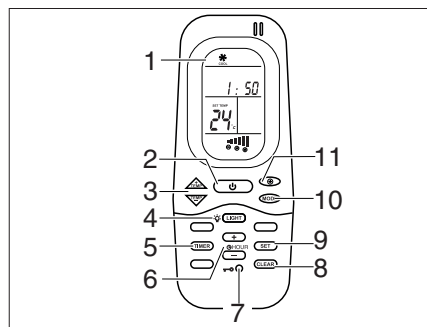
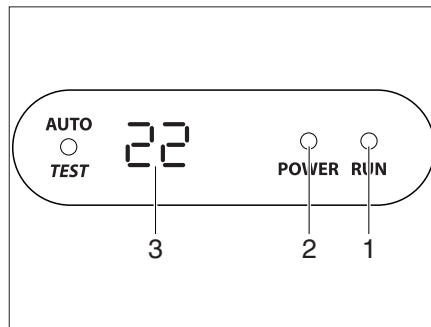

Fig. 305 Remote control
Fig. 306 Display on the diffuser
The air conditioning unit is located on the roof of the vehicle. The remote control (Fig. 305) for the air conditioning unit is located in the kitchen area.
- Connect the vehicle to the 230 V power supply. The air conditioning unit is ready to operate. The LED (Fig. 306,2) on the diffuser's display lights up red.
- To switch on, press the on/off switch (Fig. 305,2) on the remote control. The LED (Fig. 306,1) lights up green when the air conditioning unit is in cooling mode. The LED (Fig. 306,1) lights up red when the air conditioning unit is in heating mode.
- Set the desired operating mode using the MODE button (Fig. 305,10).
- If necessary, set the desired fan level by using the button (Fig. 305,11) and the room temperature by using the buttons (Fig. 305,3).
- To switch off, press the On/Off switch (Fig. 305,2) on the remote control again.
- To carry out programming, switch on the air conditioning unit with the On/off switch (Fig. 305,2) on the remote control.
- Press the TIMER button (Fig. 305,5). The ON indicator for the Start time is activated.
- Set the time with the TEMP (+/-) buttons (Fig. 305,3).
- Press the TIMER button (Fig. 305,5) again. The OFF indicator for the Start time is activated.
- Press the TIMER button (Fig. 305,5) again.
- Upon completing the setting, press the SET button (Fig. 305,9).
- Press the CLEAR button (Fig. 305,8) to delete the timer programming.